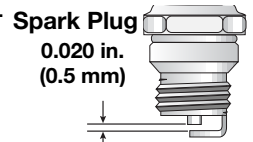

Fig. 21
3. Replace a cracked, fouled or dirty spark plug. Set the air gap at **0.020 in. (0.5 mm)** using a feeler gauge (Fig. 21).